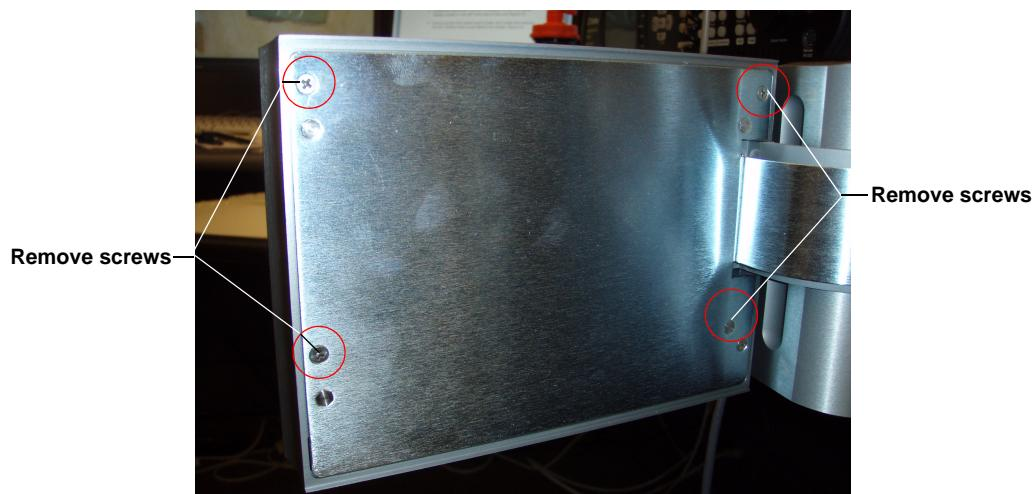

Figure 3 Remove Phillips-Head Screws Behind the Touch Screen
2. Swing the touch screen out from the front panel, then remove the four Phillips-head screws behind the display, as shown in Figure 3.